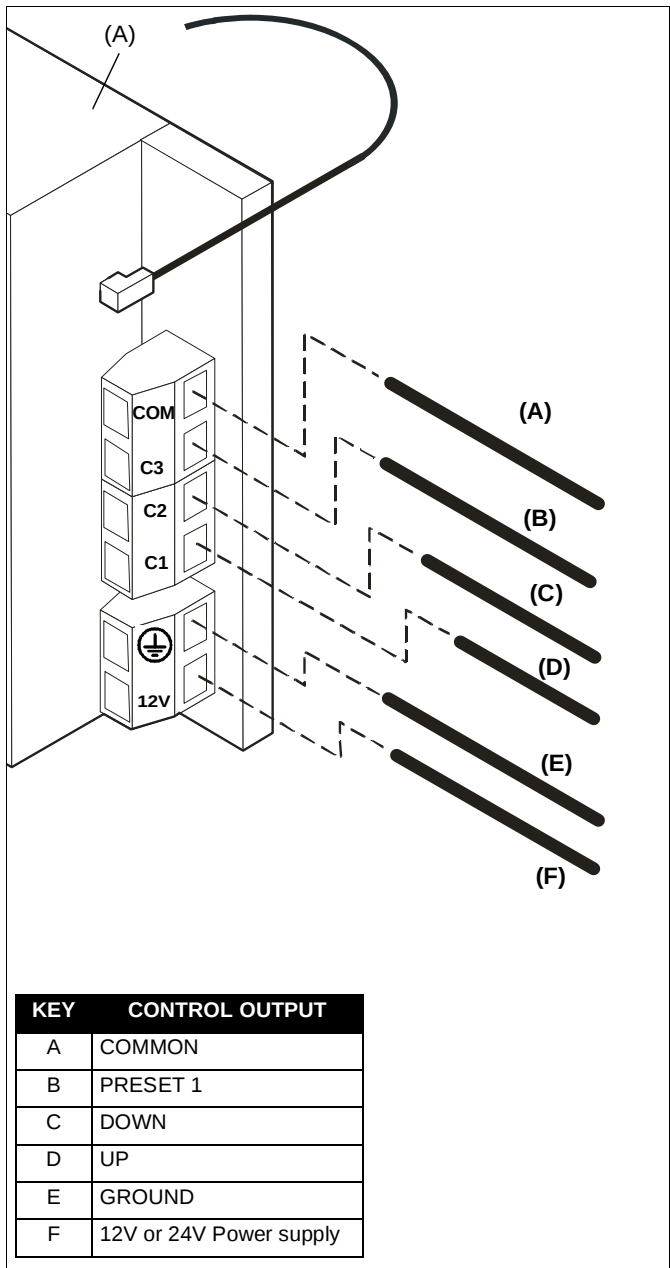

Figure 2
4. Using a slotted screwdriver, connect power and signal wires to the IR to Dry Control accessory (A). (See Figure 2)